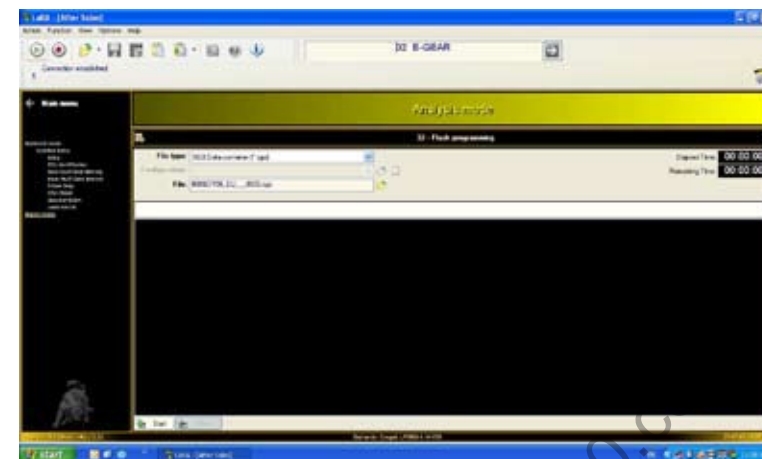

Fig.122
8. Press "Start" to launch the link (**Fig.122**); at the end, you will receive feedback about the outcome of the E-Gear control unit update.